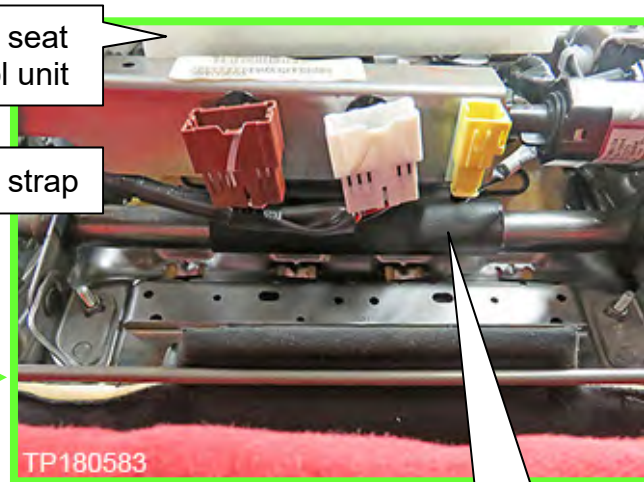

Figure 9
11. Detach the carpet strap clip (Figure 9) from the seat frame or the seat spring; see page 5.